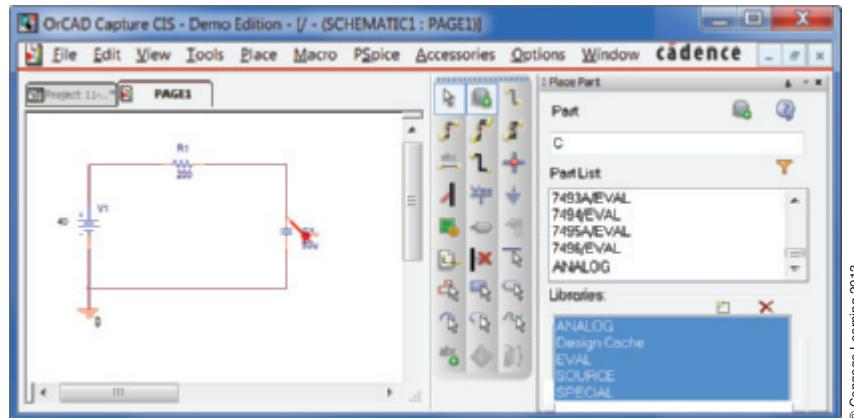

FIGURE 11–45 PSpice example. The voltage marker displays voltage with respect to ground, which, in this case, is the voltage across C_1 .
- Create the circuit on the screen as in Figure 11–45—see Note 4. Remember to rotate the capacitor as discussed in Appendix A, then set its initial condition
(IC) to zero. To do this, double-click the capacitor symbol, type **0V** into the Property editor cell labeled IC—see Note 2—click *Apply*, then close the editor. Click the *New Simulation Profile* icon, enter a name (e.g., **Figure 11–45**) then click *Create*. In the *Simulation Settings* box, click the *Analysis* tab, select *Time Domain (Transient)* and in *Options*, select *General Settings*. Set the duration of the transient (*TSTOP*) to 50ms, then click *OK*. Find the voltage marker on the toolbar and place as shown. (It will be gray, but will change color after the simulation is run.)